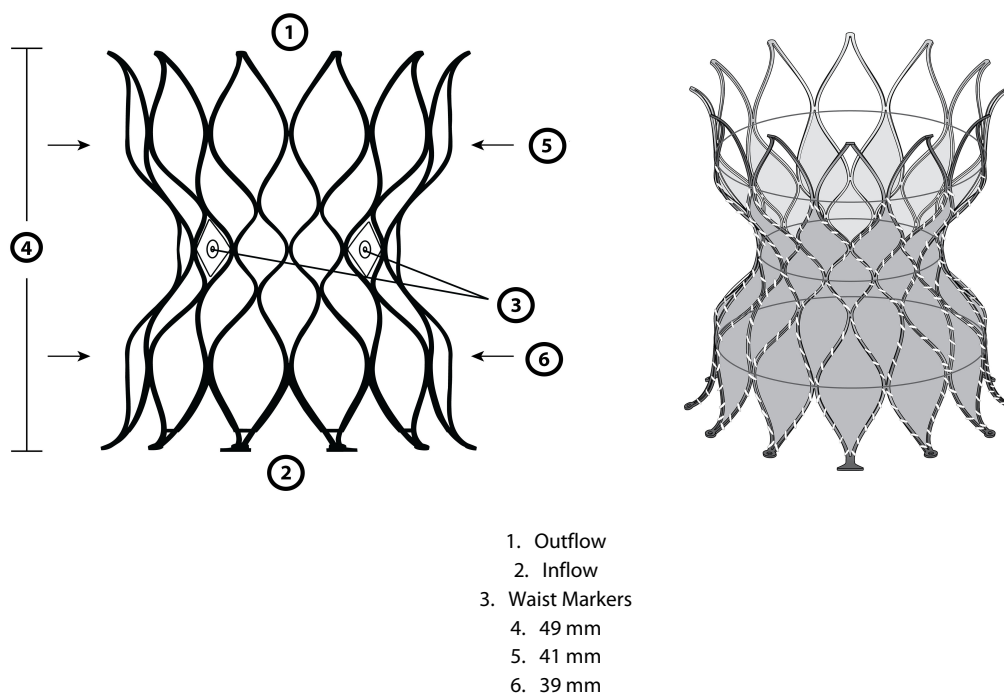

Figure 1: Edwards Alterra Adaptive Prestent
• Edwards Alterra Adaptive Prestent (Figure 1)